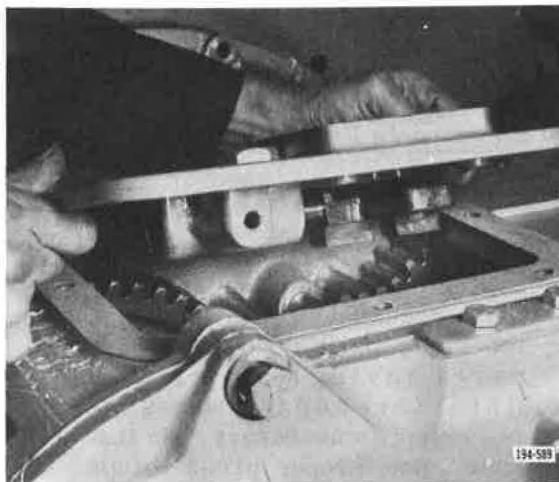

Figure 5-674. Removing Top Cover
9. Remove front case top cover. See **Figure 5-674**.